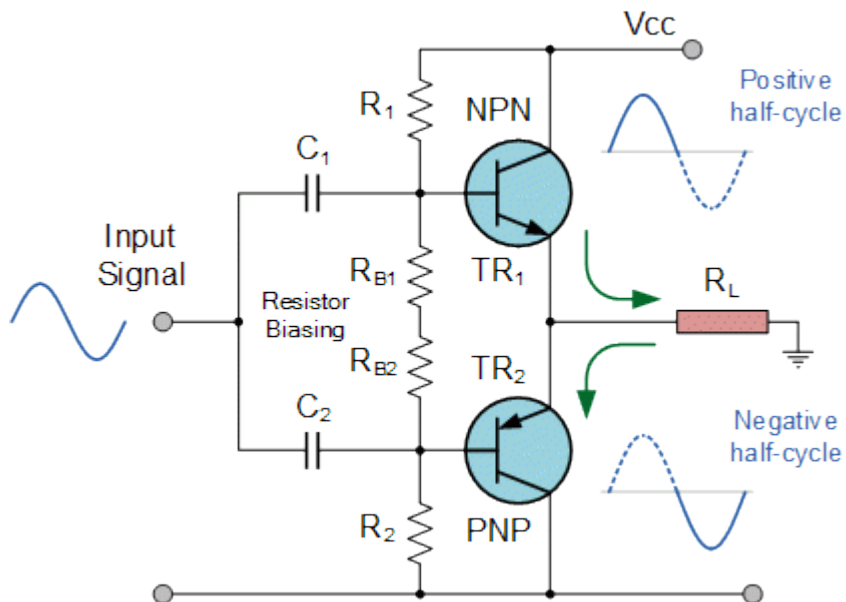
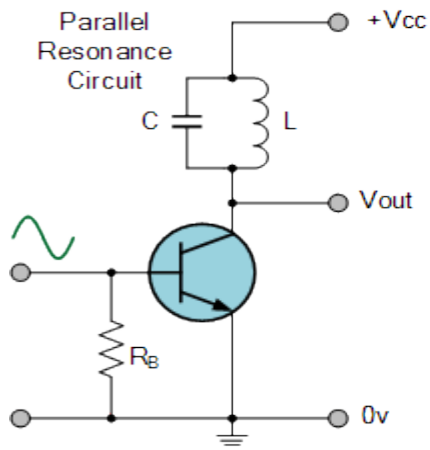

Fig. 3: Class B amplifier
Fig. 5: Class C amplifier
4. Repeat the above steps for Class B amplifier (fig 3) and Class C amplifier (fig 5).